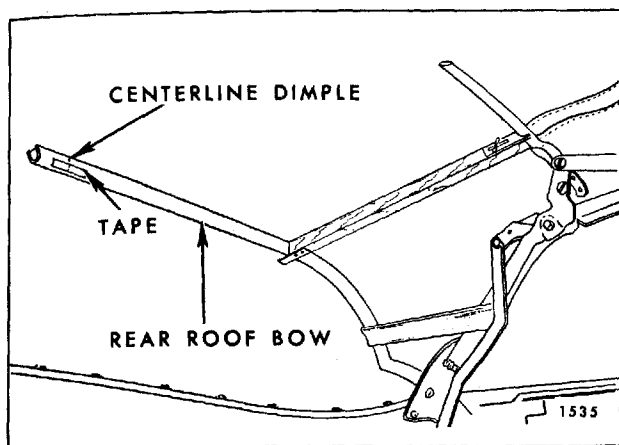

Fig. 6-40—Marking Rear Roof Bow
5. Along forward surface of rear roof bow install a 1" piece of tape at centerline dimple of rear roof bow. Using a pencil, mark centerline of rear bow on tape (Fig. 6-40).
NOTE: The deck seam mark will vary slightly ($\pm 1/4"$) depending upon position of rear roof bow. Also check centerline mark on inner lining of top material. Mark should correspond to centerline mark on rear roof bow. (Fig. 6-40).